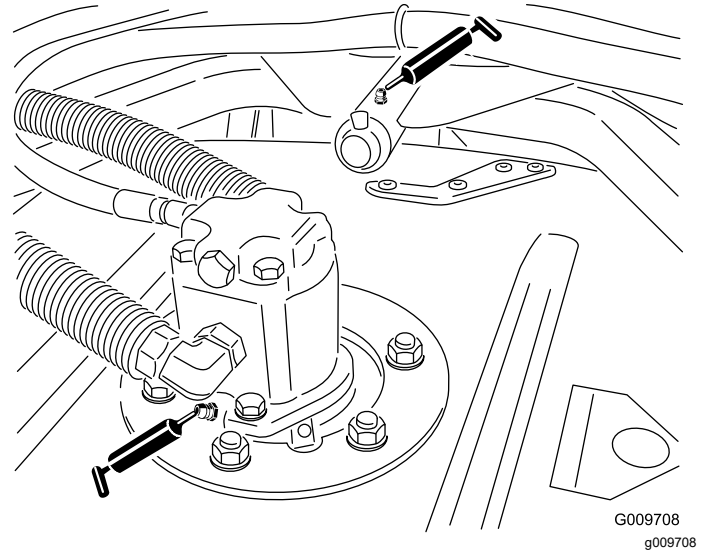

**Figure 77**
- Lift-arm bushings (1 per cutting unit) as shown in Figure 77
- Lift-cylinder bushings (2 per cutting unit) as shown in Figure 77